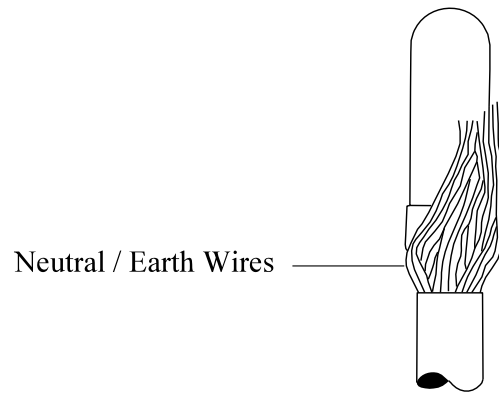

Fig 5
- 8.13. Remove the 3M No 88 tape from the CNE wires and lay the wires up along side the temporary core protection cap - Fig 5.